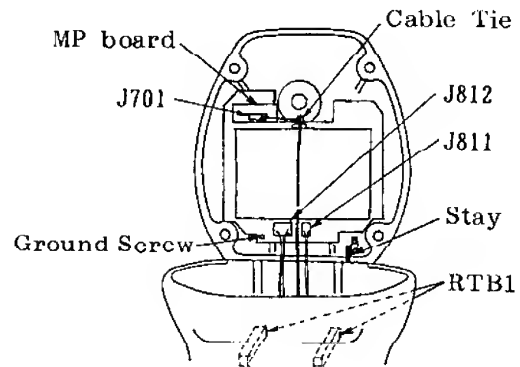

Fig.9 Internal Wirings
4. Open the scanner housing cover and fix the stay as shown in Fig.9. Make the scanner unit internal wiring as the following steps.
5. One end of the cable with 15-, 9-and 7-way plugs has already connected to terminal board RTB1 inside the scanner housing. Mate the 15-and 9-way plugs with jacks J812 and J811 on the transceiver module, respectively. Connect the 7-way plug to jack J701 on the MP board. Note that the cable between RTB1 and J701 should be clamped by the cable tie as shown in Fig.9.
6. The black ground wire is provided with the cable mentioned above. Connect the wire to the chassis of the transceiver module with the screw shown in Fig.9.